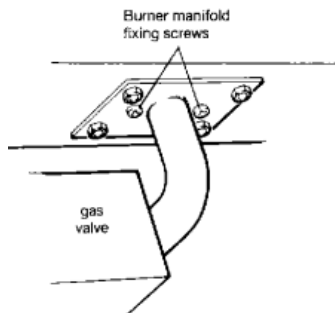

Fig. 18
13. From underneath the base of the chassis remove the two pozi screws, See Fig.18, securing the burner manifold.